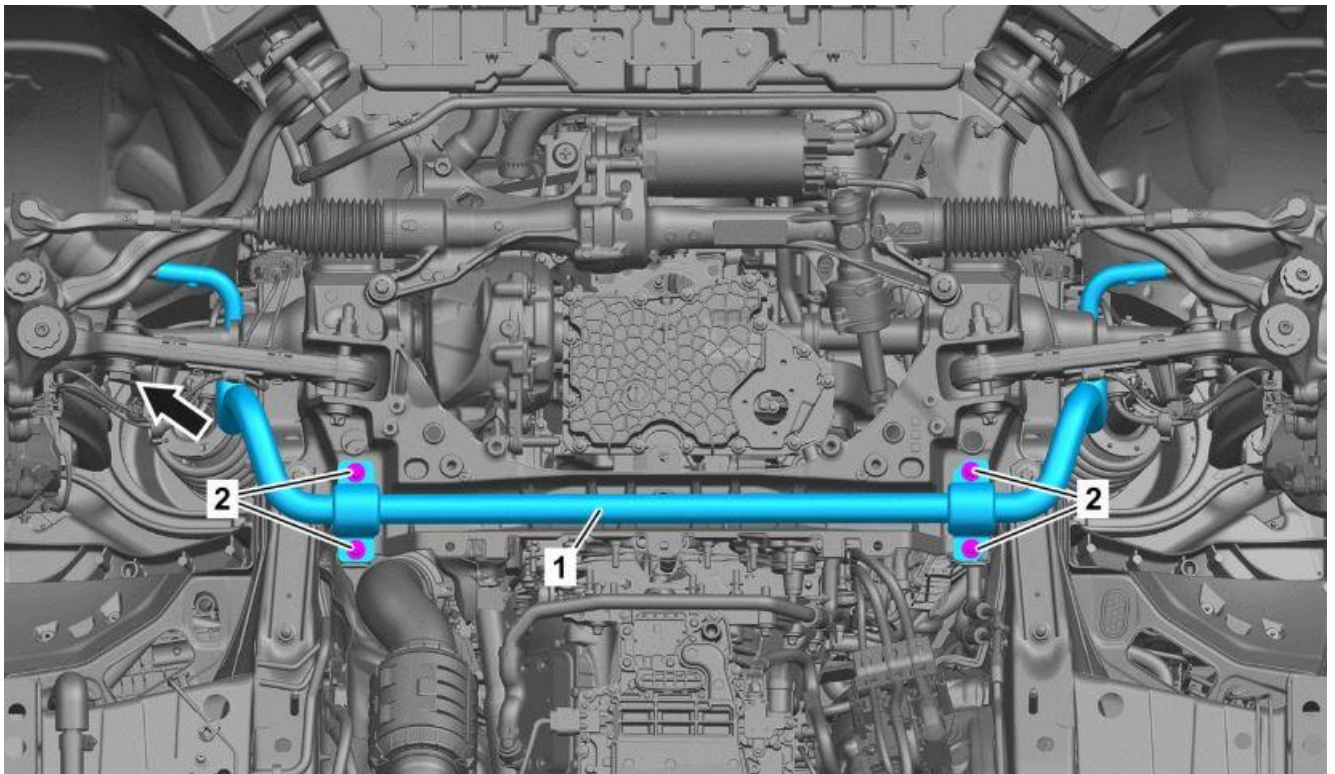

Figure 1
1. Replace stabilizer (1, figure 1) of front axle and the 4 screws (2, figure 1).